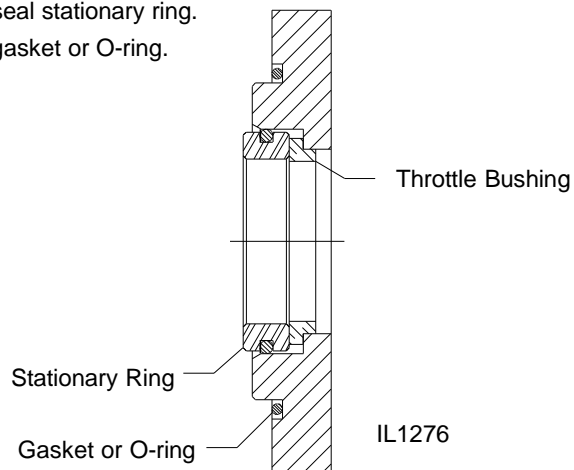

Figure 2. Outboard Bearing End Seal Installation
3. Install seals. See Figures 2 and 3.